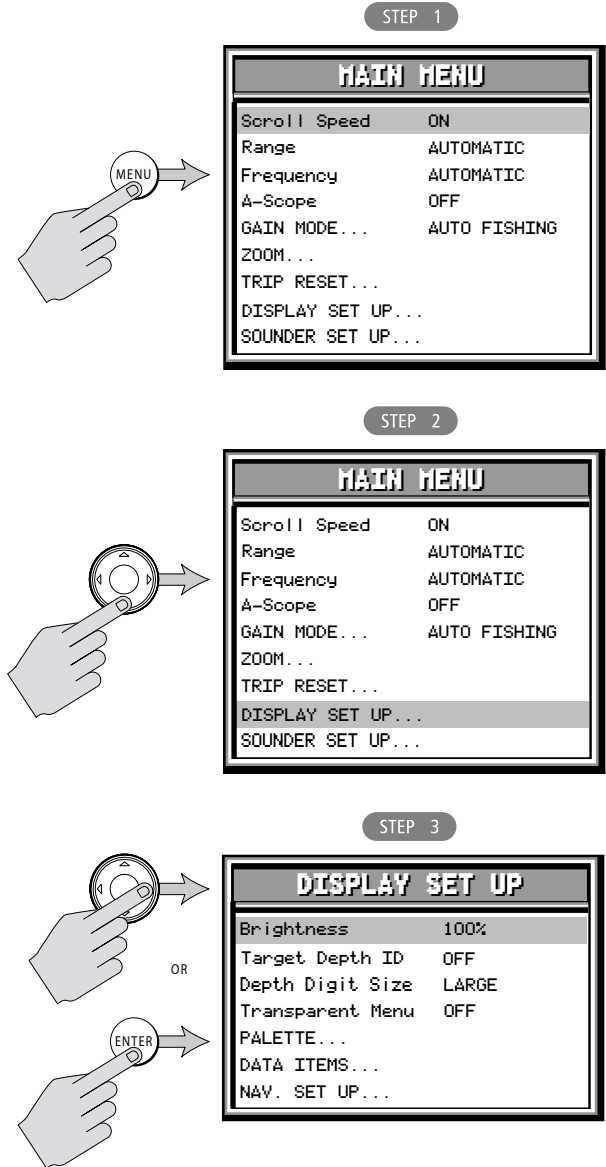

Figure 5-1: Accessing Display Set Up Menu Items
*Figure 5-1* also demonstrates how to access the Display Set Up menu items. A description of how to browse the menu and make selections is outlined in *Selecting MENU Items* on page 25.